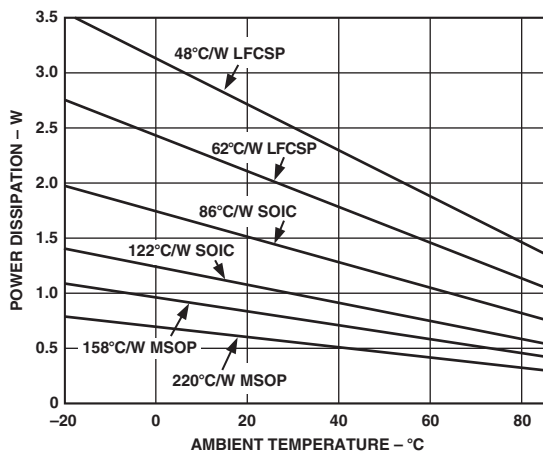

Figure 5. Power Derating Curve
The maximum power dissipation versus ambient temperature for each package is shown in Figure 5.
2. The thermal pad of the LFCSP package provides a low thermal impedance path (approximately 20°C/W) to the PCB. Therefore the PCB must be properly designed to effectively conduct the heat away from the package. This is achieved by adding thermal vias to the PCB, which provide a thermal path to the inner or bottom layers. See Figure 5 for the recommended via pattern. Note that the via diameter is small to prevent the solder from flowing through the via and leaving voids in the thermal pad solder joint.
Renumbered Figures 5 and 6 8
Added Figure 5 8